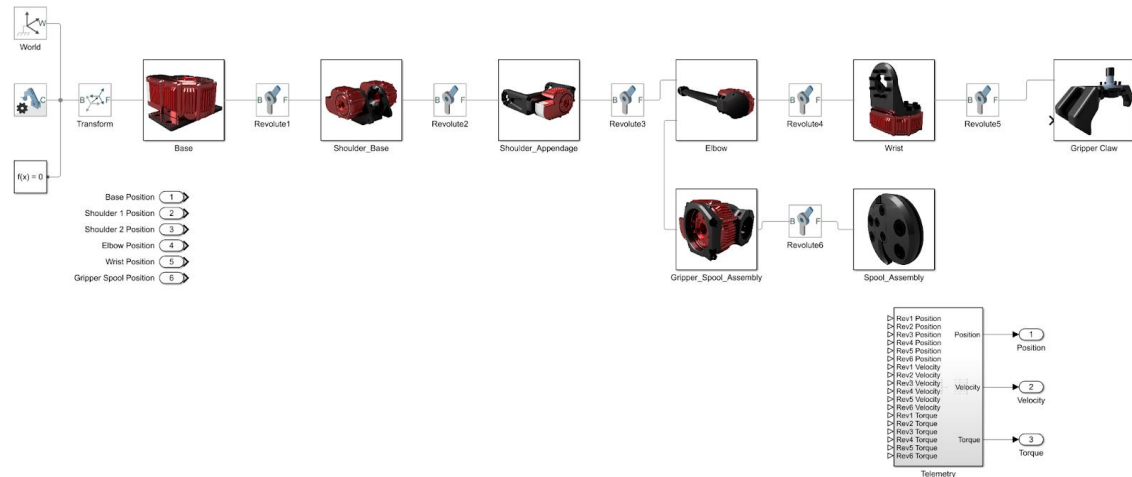

Figure 4: HEBI Arm Initial Block Diagram
5. Close the Model Explorer window. Go to Modeling and Update Model. Any errors or warnings shown in the block diagram should be cleared. The block diagram should currently look as it does in figure 4.